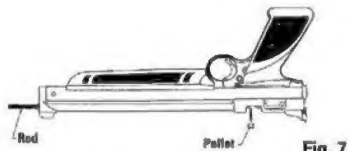

Fig. 7
- Push the jammed pellet out of the breech end of the airgun (Fig. 7)